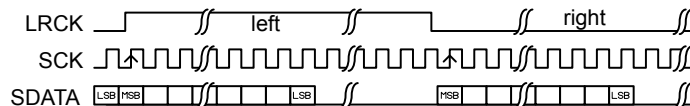

Figure 67: CONFIG.ALIGN set to left justified
- When using left-alignment, each half-frame starts with the MSB of the sample value, as illustrated by Figure 67: CONFIG.ALIGN set to left justified on page 233.